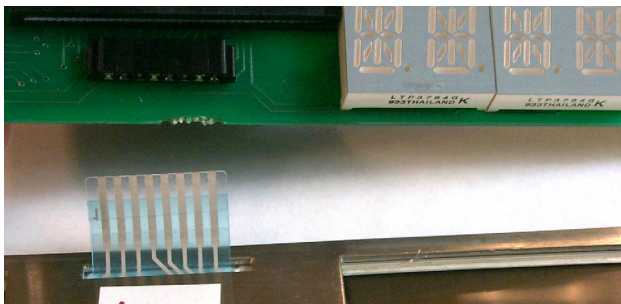

Fig: 7 The ribbon on the membrane switch is pulled free of the connector on the display board.
- Disconnect the non-terminated ribbon, which connects the membrane switch to the display board, by gently pulling the cable from the connector on the display board. **Fig 7**